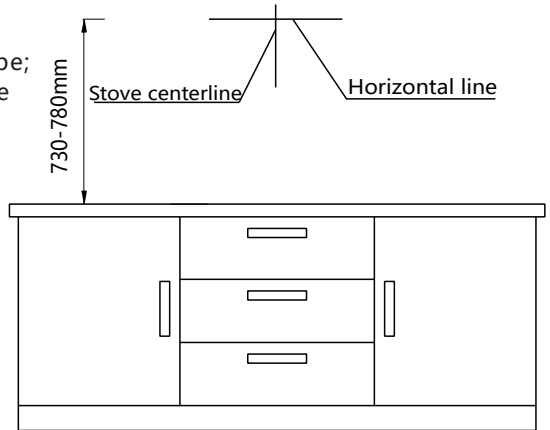

Figure 4.1 PRH900/PRH900A(with rear glass)/PHR900/PHR910A (with rear glass) drilling diagram
- 2.1 Draw a horizontal line 730-780 mm above the benchtop, then draw a centerline from the benchtop, so it intersects the horizontal line (see figure 4.1).